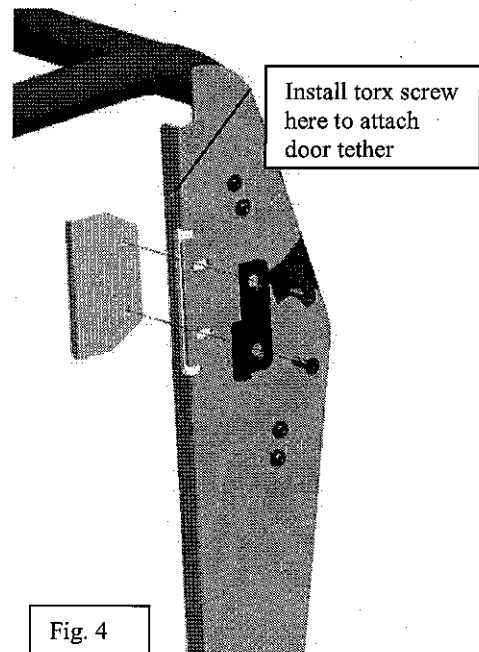

Fig. 4
4. Refer to Fig. 4. Align a hinge plate and driver female hinge with the driver closeout bracket. Fasten using (2) M8 x 25mm screws.
6. After door is installed, fasten a torx screw at location shown in Fig. 4 to attach the door tether on the door to the driver closeout panel.